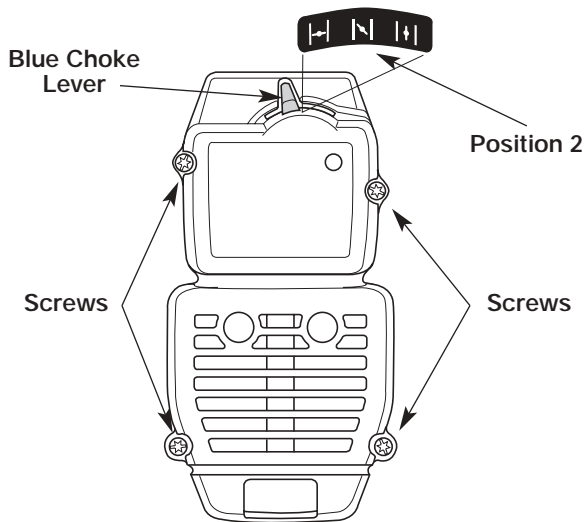

Fig. 60
1. Place the choke lever in Position 2 (Fig. 60).
2. Remove the four (4) screws securing the air filter/muffler cover (Fig. 60). Use a T-20 Torx bit screwdriver.
2. Insert the four (4) screws into the holes in the air filter/muffler cover (Fig. 60) and tighten. **Do not over tighten.**